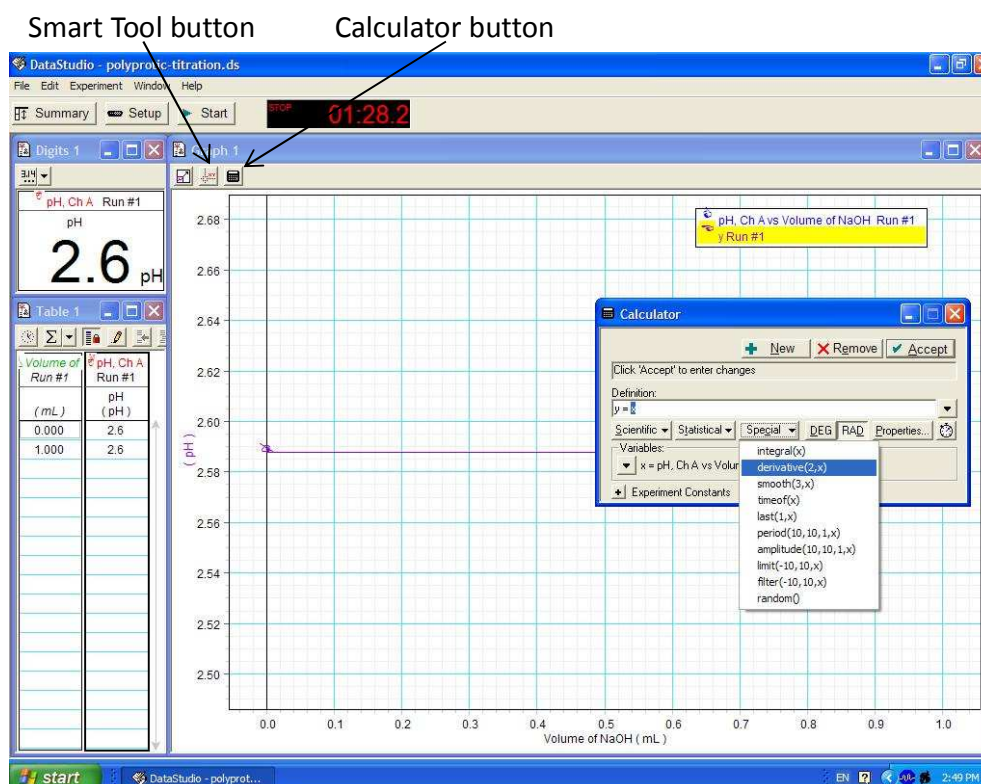

Figure 3: Calculation window at end of titration.
Determination of the equivalence points in the titration of phosphoric acid (see Figure 3)
3. Click on the Smart Tool button at the top of the graph (see Figure 3) and move the cursor to each of the two peaks in the  $\Delta\text{pH}$  versus volume of titrant plot. Read the volume of titrant values at the tops of the peaks and record these in the data sheet at the end of this document.